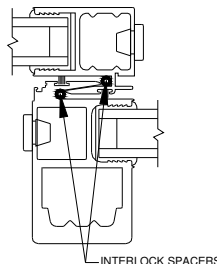

Figure 32:
- Verify that all panels with interlocker hooks engage properly. If lead stile panel is not engaging properly with the jamb or meeting stiles, remove interlock spacers as necessary (*Figure 32*)